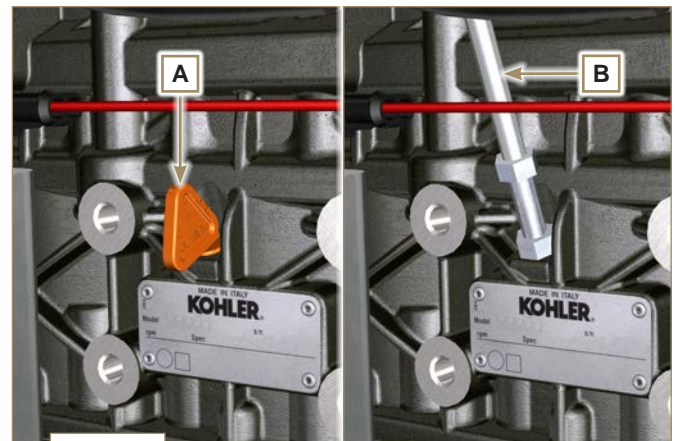

Fig. 12.8
- 1 - Replace the oil dipstick **A** with a thermocouple **B** (Fig. 12.8).